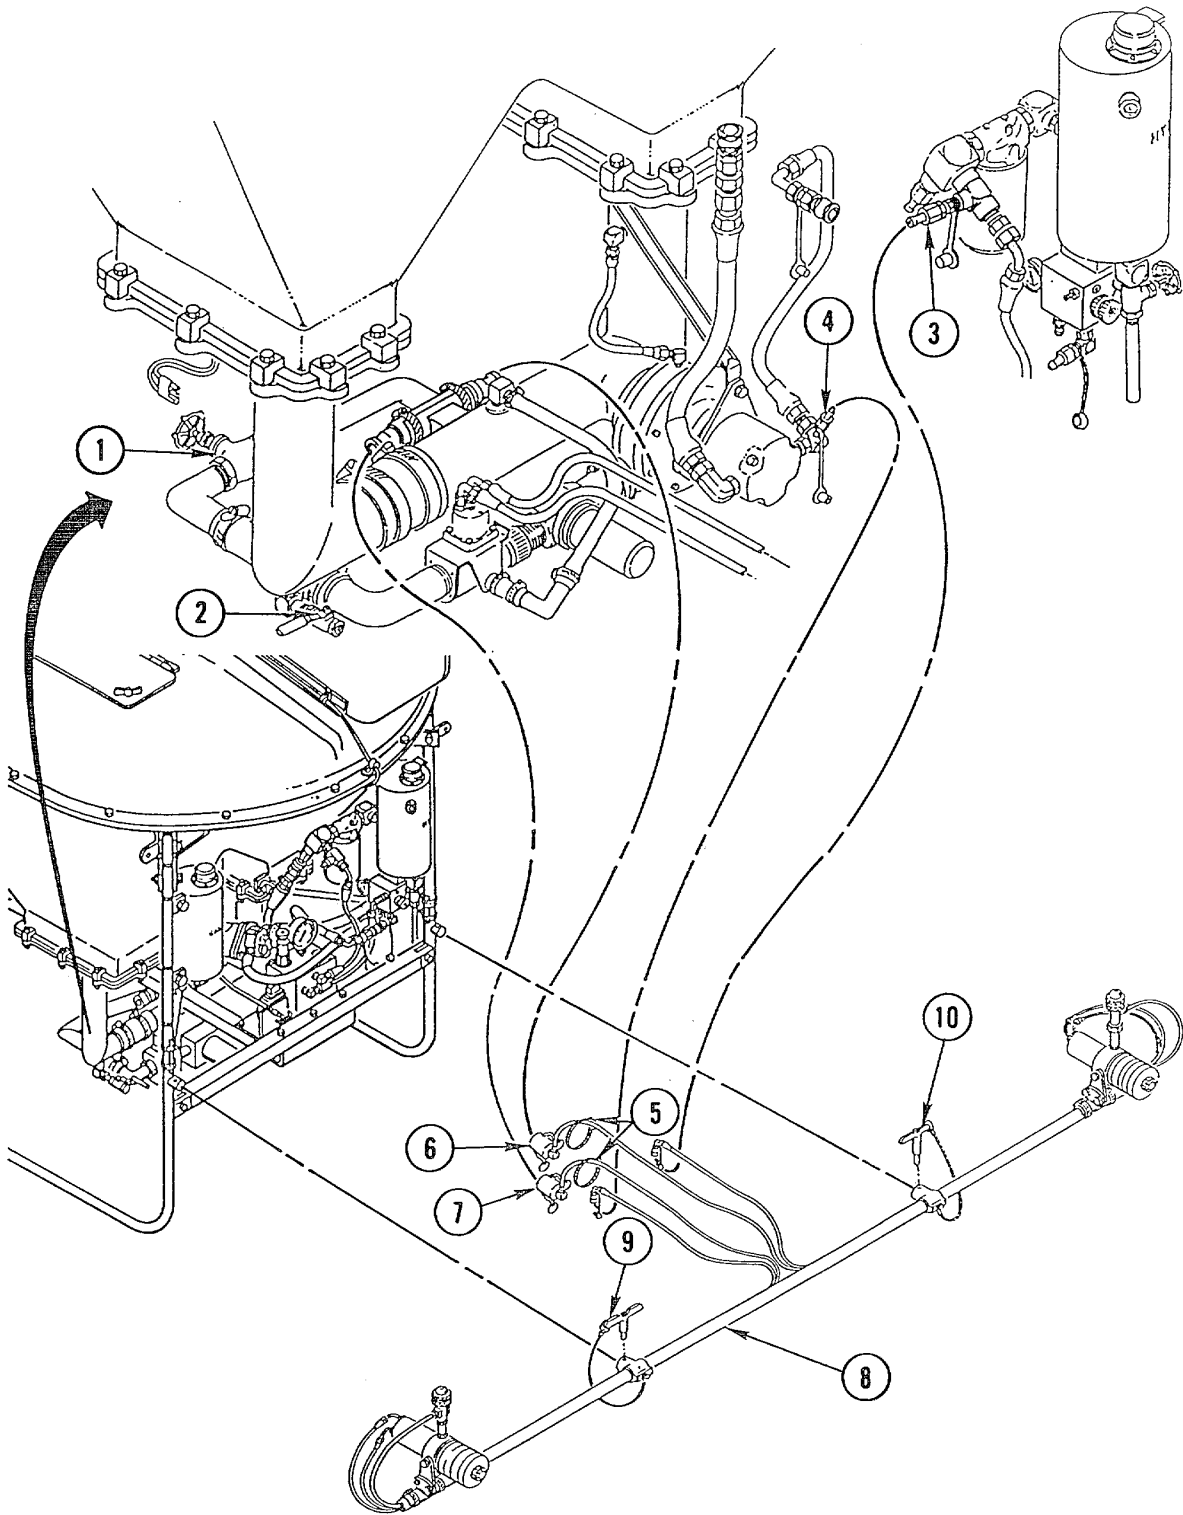

Figure 2-16. Disassembly of ULV System
- (1) Open crosstube gate valve (1, figure 2-16) and ball valve (2).
- (2) Disconnect hydraulic quick-disconnect fitting (3) from hydraulic filter elbow fitting.
- (3) Disconnect hydraulic quick-disconnect fitting (4) from hydraulic pump.
- (4) Remove clamps (5) from Kamlock ears on center boom.
- (5) Disconnect Kamlock hose ends (6 and 7) from center boom by opening Kamlock ears.
- (6) Remove ULV boom (8) from ULV attach points on bucket assembly by removing two quick-release pins (9 and 10).
- (7) Clean and store components in original containers.